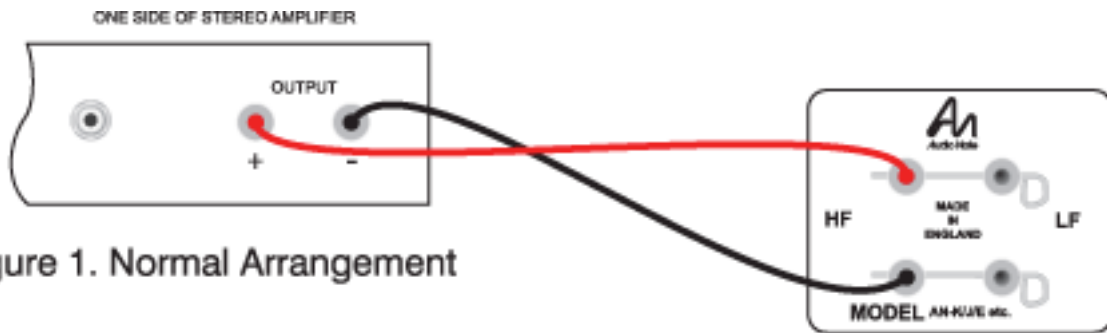

Figure 1. Normal Arrangement
**Correct phasing of the speakers is vital for sound quality.** Your speakers should be wired in phase with each other. Proper phasing will be assured if the speaker cables connect the red speaker input to the plus (+) or "hot" amplifier output terminals, and the black speaker input terminals to the negative (-) or "ground" amplifier output terminals (***see figure 1***). Most speaker cables are marked so that it is possible to distinguish between conductors by the colour of the insulation or by a white stripe or small raised edge along one conductor.